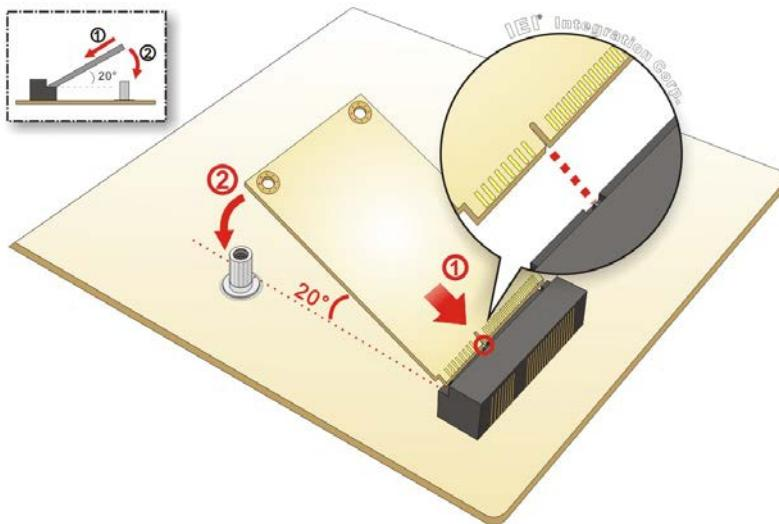

Figure 4-9: Inserting the Full-size PCIe Mini Card into the Slot at an Angle
Step 3: Insert into the socket at an angle. Line up the notch on the card with the notch on the slot. Slide the PCIe Mini card into the socket at an angle of about 20° (**Figure 4-9**).